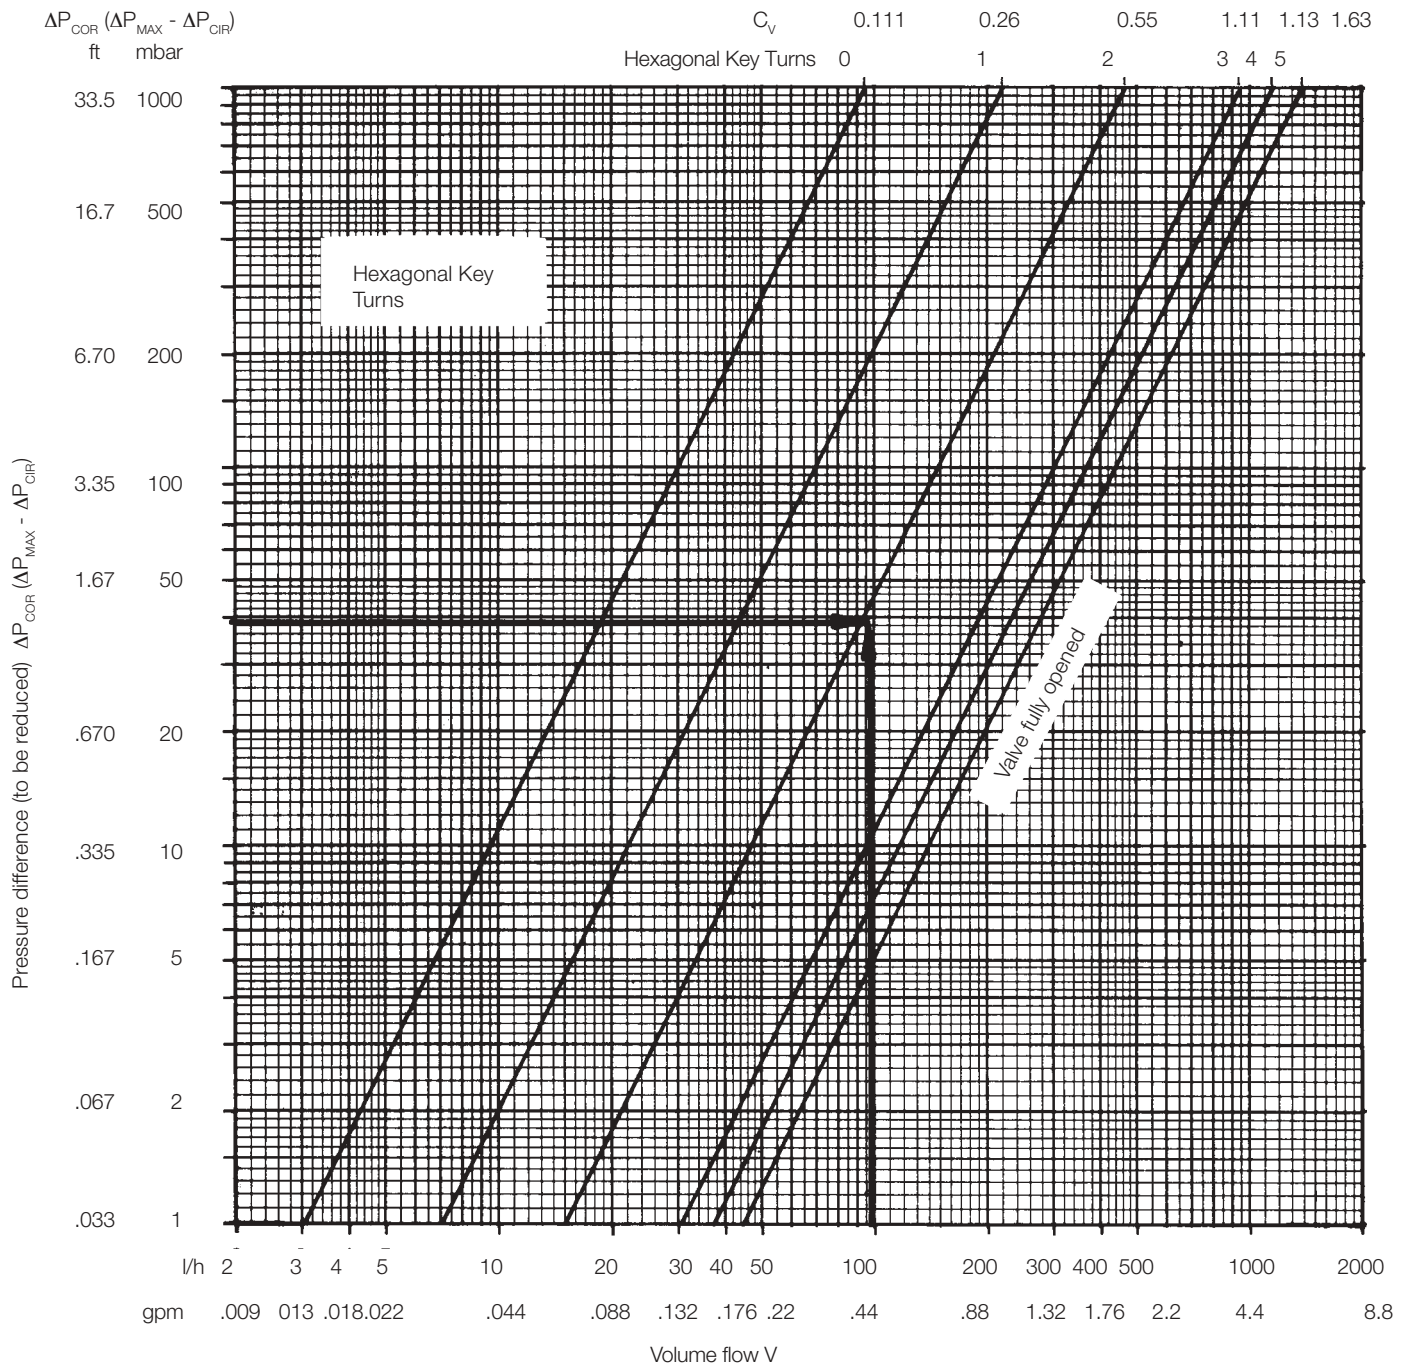

Fig. 4.10:
4.3.8 Adjusting manifold balancing valves - With the pressure loss data for each circuit on a manifold, the designer can determine the difference between the greatest pressure loss and the remaining. Then use Fig. 4.10 to determine the appropriate number of turns for each balancing valve. Follow specific instructions supplied with the manifold.